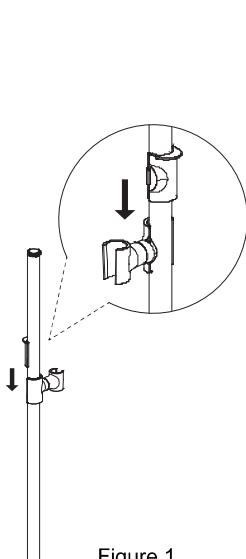

Figure 1
- b) Wrap the teflon tape anticlockwise on the thread of the G1/2 end of the curved connector ⑩ , connect them to the hot and cold water outlets by a wrench. Leave suitable depth out of the wall and adjust the distance between 2 connectors according to the width of the inlet on the thermostatic shower bar .
- c) Make sure the 2 curved connectors are installed deadly straight into the wall. The centre distance between 2 curved connectors is 150±8mm. Use the spirit level ⑪ to make sure the centre line remains horizontal .
- a) Connect the thermostatic shower bar ⑨ onto the curved connectors. Left side is hot water and right side is cold water. Use the Allen key to secure .
- a) Connect the raiser rail to the thermostatic shower bar(Figure 1/2) and mark the position of the pipe connector on the wall (Figure 3).